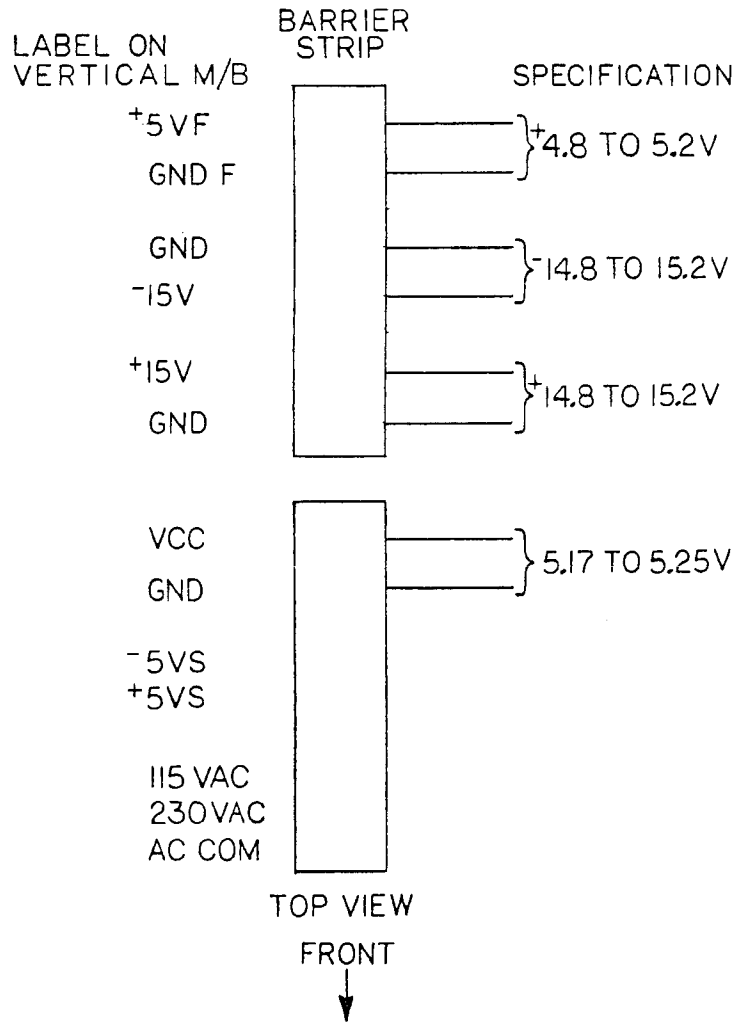

Fig. C-2-5-1 Barrier Strip Voltages on Power Supply
- 2) Check P.S. voltage levels-Fig.C-2-5-1